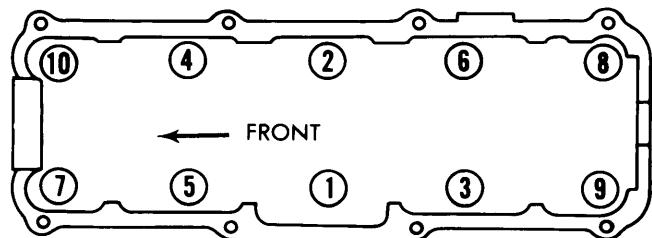

Fig. 1 Cylinder Head Tightening Sequence
- 2) Remove all other components necessary to gain clearance around camshaft cover. Remove cover, Remove the head bolts in reverse order shown in Fig. 1. When installing, ensure head gasket is positioned with "TOP" or "OBEN" mark facing upward. Tighten head bolts to "cold" setting using Fig. 1 for tightening sequence reference.